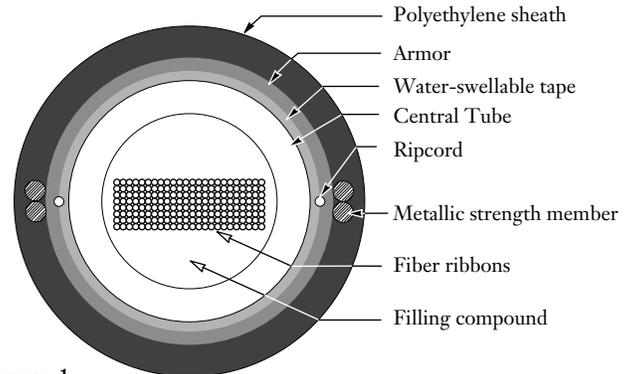

Figure 1
1.2 The cables illustrated in this procedure are manufactured with a single central tube. Four metallic rods embedded in the outer sheath provide tensile strength for both cables and toning capability for the toneable cable. Toneable cables, unlike armored cables, do not have armor or ripcords (Figure 1).